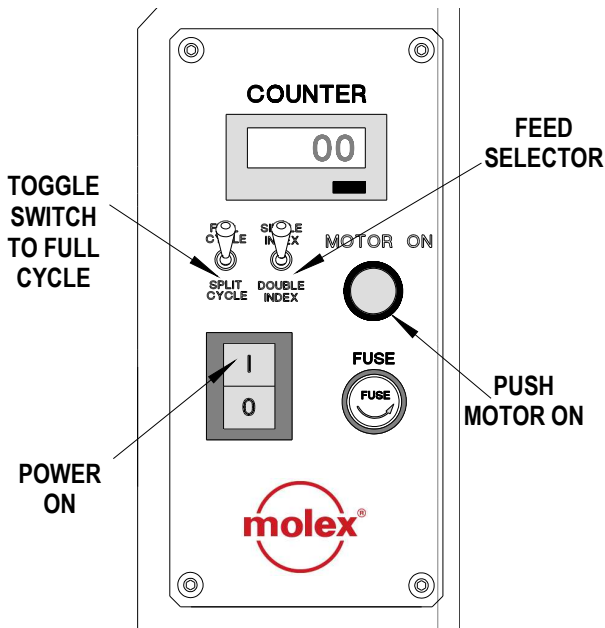

Figure 3-5
“DOUBLE”, depending on the spacing of the taped terminals. See Figure 3-5.
1. Push the toggle switch on the control panel to “Full Cycle”. See Figure 3-5.
The split cycle is used mostly for closed barrel terminals. This makes it easier to locate the terminal before crimping the wire. The punch/ram will close partially to assist in locating the terminal for the termination. Then the wire can be placed into the terminal and be terminated. To setup the machine for split cycle push the toggle switch on the control panel to “Split Cycle”. See Figure 3-5.